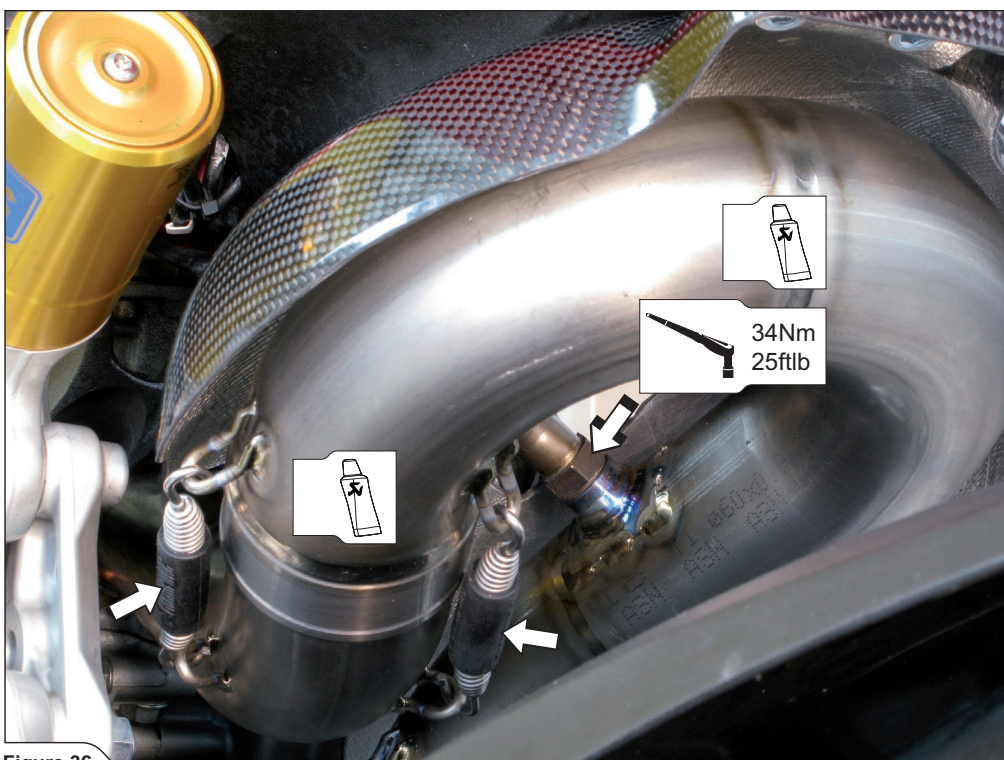

Figure 36
8. Slide the rear link pipe onto the header, attach the springs and tighten the lambda sensor (Figure 36).